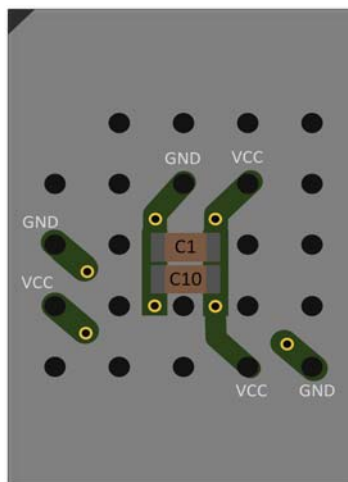

Figure 15. Bottom Mount Capacitor Placement for 24-Pin BGA Package
- When mounting the capacitors on the bottom signal layer, tie all VCC signals together and connect them to a single 4.7  $\mu$ F capacitor, or a parallel combination of a 4.7  $\mu$ F and a 100 nF capacitors. This option is shown Figure 15.